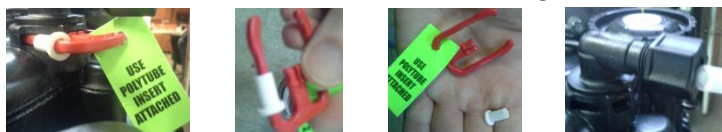

Figure 14: Installing Brine Line Polytube
3. A red latch with a Polytube insert attached is placed under the brine inlet of each valve. Place this insert in the brine line before connecting it to the brine inlet. (Figure 14)